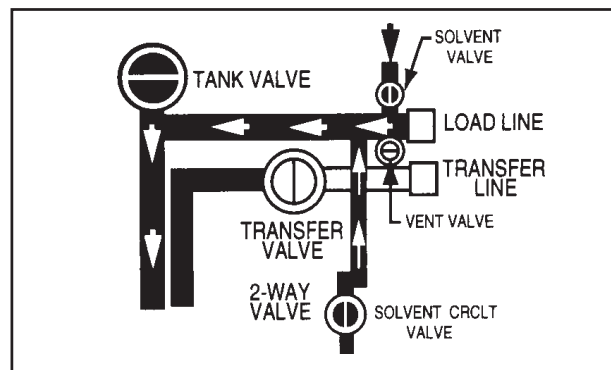

FIGURE 3-31. CLEANOUT VALVES
8. Open the Solvent Valve on the Load Line. (Figure 3-31) This valve and line connect to the solvent tank or the diesel burner fuel tank.
11. Close the Solvent Valve on the Load Line and open the Solvent Circulate Valve. (Figure 3-31) Run for 2 to 5 minutes to circulate solvent through the system.
2. To remove solvent from the system open the Vent Valve at the Load Line (Figure 3-31).